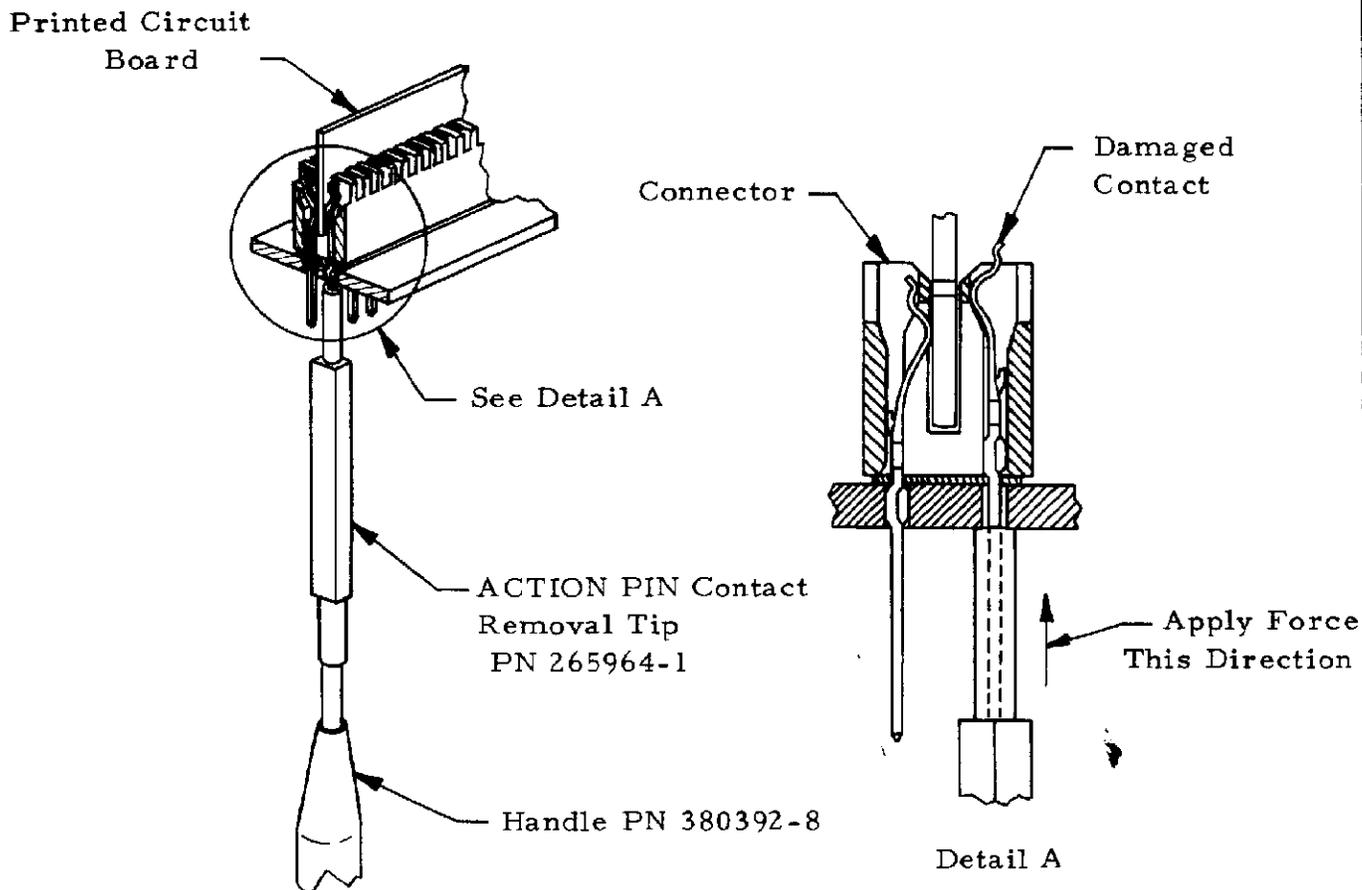

Figure 8
- (2) Place ACTION PIN contact removal tip on handle.
- (3) Fit ACTION PIN contact removal tip over post section of damaged contact and push on handle until contact snaps free as indicated in Figure 8.